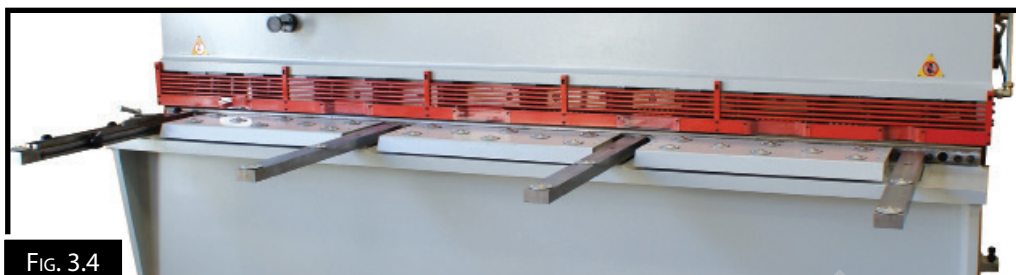

FIG. 3.4
- ❑ Bolt the support arms onto the feed table. Ensure they are level and square to the table. (Fig 3.4)